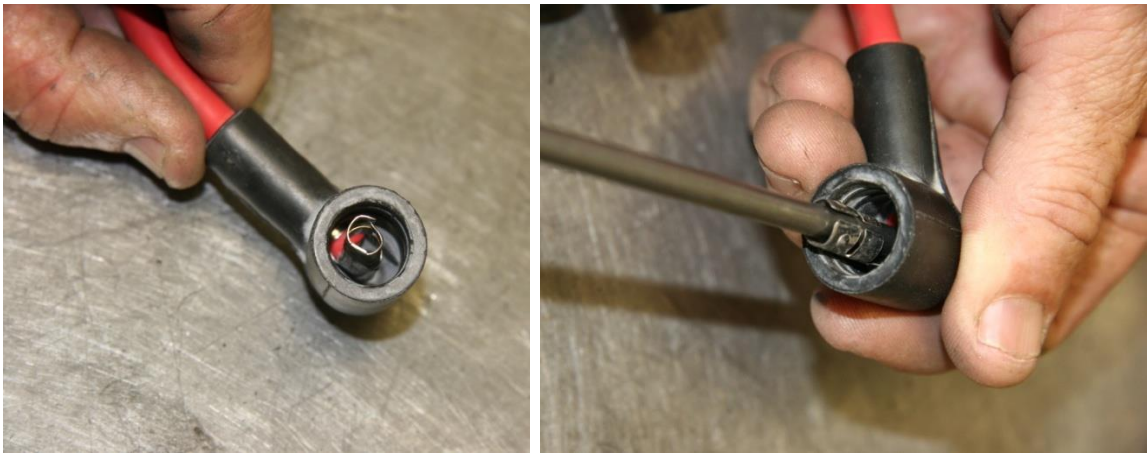

Figure 113 – Adjusting High Tension Lead Caps
- Check the fit of the high-tension lead caps onto the distributor and spark plugs. Visually check the metal contacts inside the caps. If the fit is loose or if the contact is visibly damaged as shown in Figure 113 then a screwdriver or similar must be used to re-shape the contact (it should be round) and to re-size it for a better fit – for a spark plug the diameter of the contact needs to be reduced to tighten while for a distributor cap it needs to be expanded. Each cap should fit with a clear "click" as it connects to the distributor cap or spark plug.